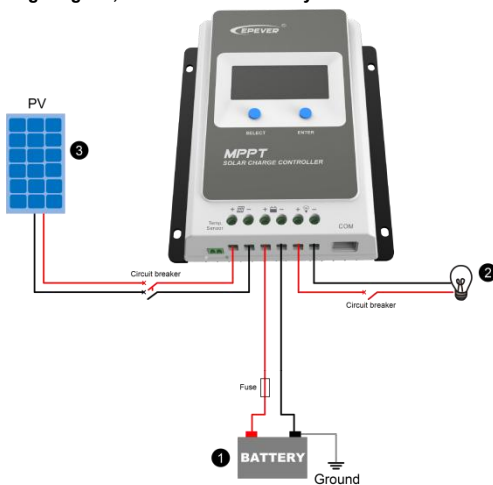

Figure 2-2 Schematic Wiring Diagram
Step 2: Connect the system in the order of battery -- load --PV array  following Figure 2-2," Schematic Wiring Diagram," and disconnect the system in the reverse order.